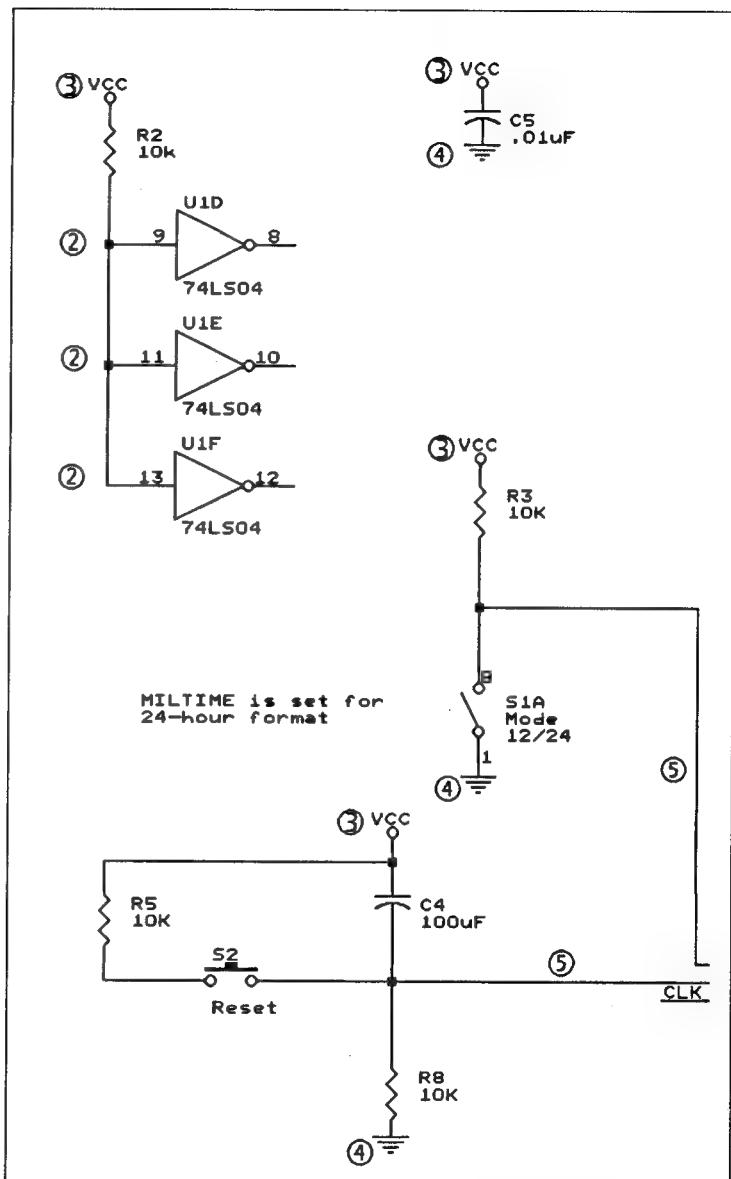

Figure 6-9. Inverters, power symbols, ground symbols, and wires to be placed. The callouts refer to the step numbers in this section.
There are also some leftover parts (from multiple-element parts) to be placed on the schematic. Figure 6-9 shows the arrangement of these parts.
Refer to figure 6-9 as you follow these steps:
2. Get the **74LS04** inverter from TUTOR.LIB and place three copies at locations (1.00, 3.20), (1.00, 3.90), and (1.00, 4.60), as shown in figure 6-9.
5. Place wires to connect the remaining parts, as shown in figure 6-9. Be sure to connect the wires to the logic and display circuit at the two places shown in figure 6-9.
6. Inspect the wire intersections and use the **Place Junction** command to add junctions where required, as shown in figure 6-9.